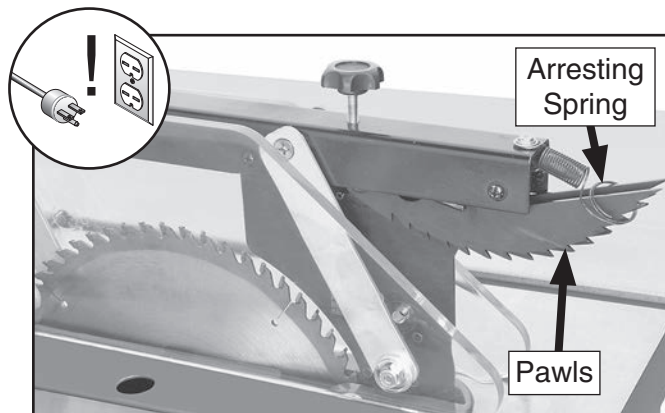

Figure 49. Pawls disabled.
2. Rotate one or both of pawls upward, then place arresting hook(s) in arresting spring, as shown in **Figure 49**.